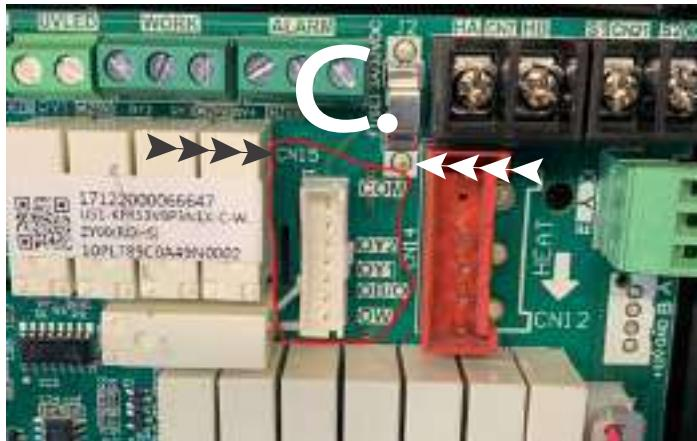

Fig. 34 — CN15 Harness Connection - AHU 24V Board
NOTE: For scenario 3, connect the outdoor unit 24 volt terminals (A) to the 24 volt harness (included, See Fig. 35) and plug in the CN15 harness connector (B) on AHU 24 volt board (C) (See Fig. 34). This will allow for the dissipation logic to shut off the ODU when a refrigerant leak is sensed if 24 volt communication is used.